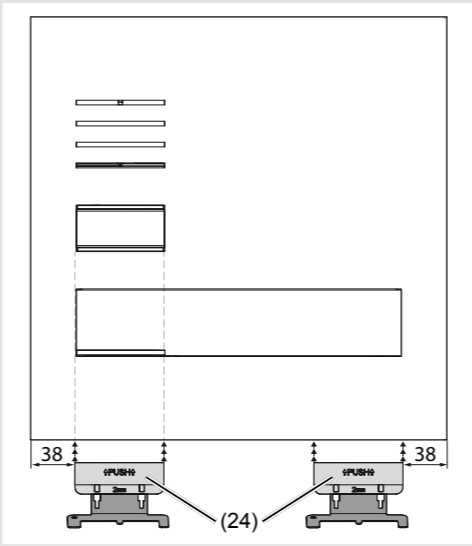

Figure 16: Opening the letter box front
- Attach opening tools (24) in accordance with Figure 16 with a spacing of 38 mm to the sides and press upwards (Figure 16).